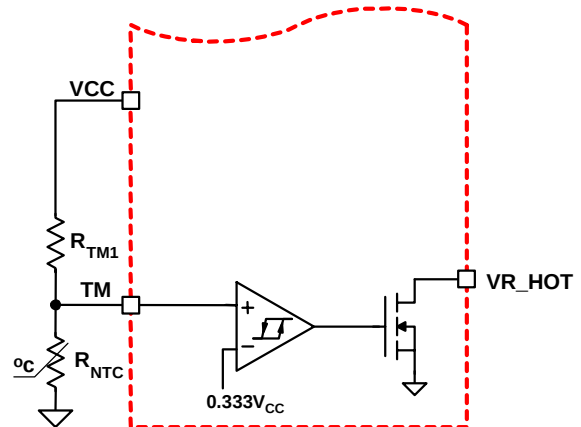
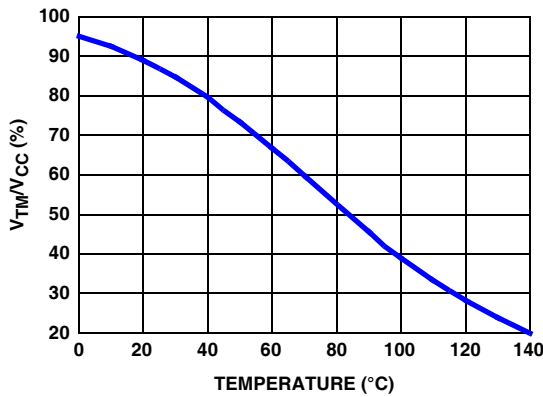

FIGURE 12. BLOCK DIAGRAM OF THERMAL MONITORING FUNCTION
FIGURE 13. THE RATIO OF TM VOLTAGE TO NTC TEMPERATURE WITH RECOMMENDED PARTS
The diagram of thermal monitoring function block is shown in Figure 12. One NTC resistor should be placed close to the power stage of the voltage regulator to sense the operational temperature, and one pull-up resistor is needed to form the voltage divider for the TM pin. As the temperature of the power stage increases, the resistance of the NTC will reduce, resulting in the reduced voltage at the TM pin. Figure 13 shows the TM voltage over the temperature for a typical design with a recommended $6.8k\Omega$ NTC (P/N: NTHS0805N02N6801 from Vishay) and $1k\Omega$ resistor $RTM1$.
Based on VCC voltage, ISL6334B, ISL6334C converts the TM pin voltage to a 6-bit TM digital signal for temperature compensation. With the non-linear A/D converter of ISL6334B, ISL6334C, the TM digital signal is linearly proportional to the NTC temperature. For accurate temperature compensation, the ratio of the TM voltage to the NTC temperature of the practical design should be similar to that in Figure 13.
1. Properly choose the voltage divider for the TM pin to match the TM voltage vs temperature curve with the recommended curve in Figure 13.